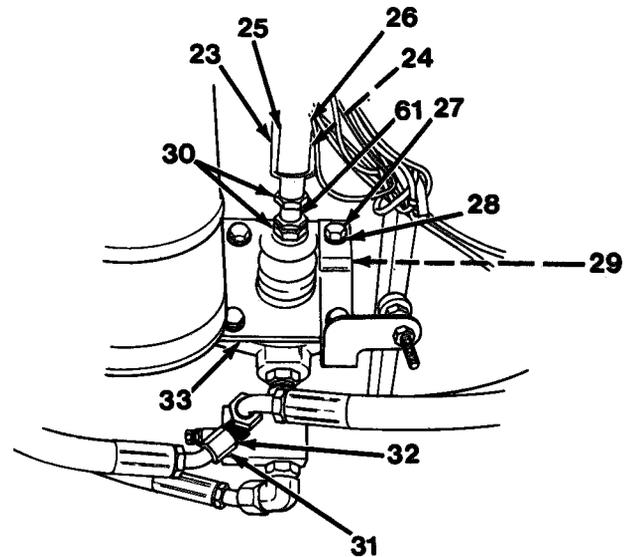

Figure 17-3
9. Remove and discard cotter pin (23, Figure 17-3).
10. Remove pin (24) from yoke (25) connecting brake bolter valve (29) to brake pedal (26).